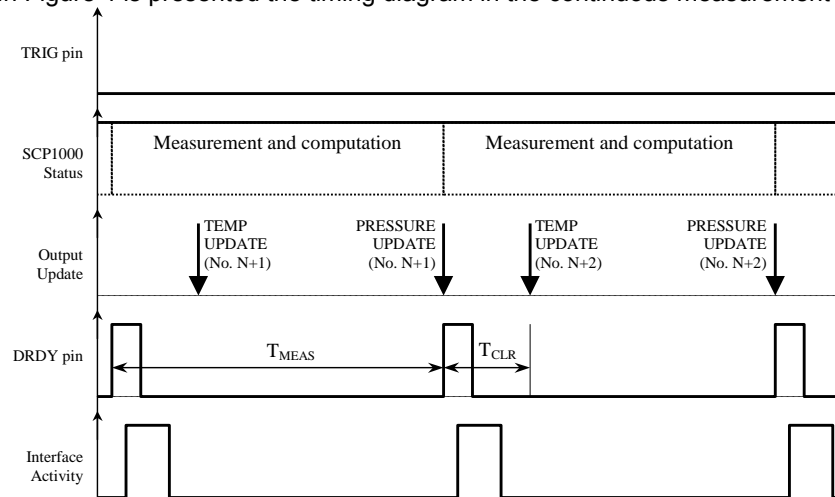

Figure 4. Timing diagram in continuous measurement mode.
In Figure 4 is presented the timing diagram in the continuous measurement modes.
In order to clear the DRDY signal, the host processor has to read the pressure output data. The temperature output data is updated before the pressure output data, thus the time to service the DRDY (T_{CLR} in Figure 4) is shorter than the measurement and computation time (T_{MEAS} in Figure 4).
- M2) For details for DRDY signal please see Figure 4, Figure 5 and section 2.3.